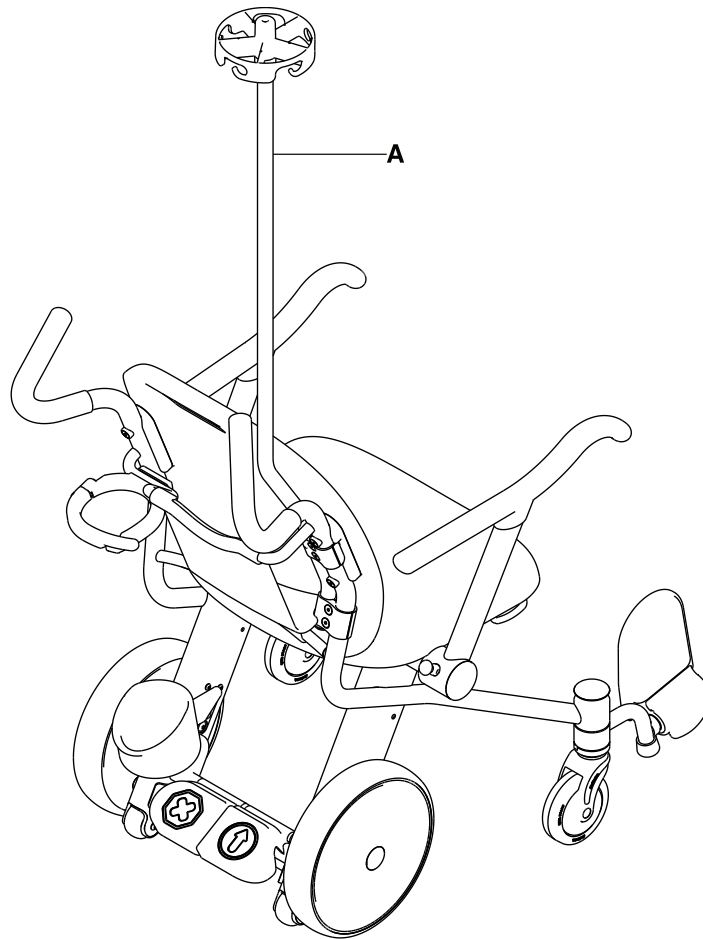

Figure 15: IV pole
1. Pull on the optional IV pole (A) to make sure that it is secure (Figure 15 on page 28).